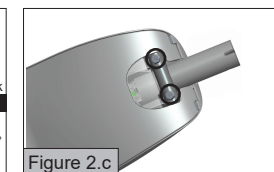

Figure 2.c
- Connect the power cable of the fixture to the AC main line (Figure 2.a).